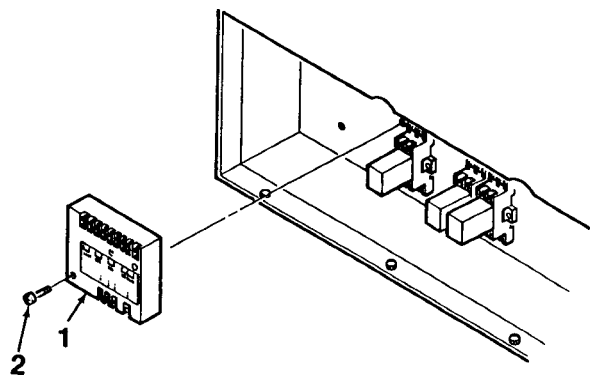

Figure 4-17. Governor Control
2. Tag and disconnect electrical wiring from governor control (1, Figure 4-17).
3. Remove governor control (1) from inside wall of control box by removing screw and captive washer assemblies (2).
1. Mate governor control (1, Figure 4-17) to inside wall of control box. Secure using screws and captive washer assemblies (2).
2. Connect electrical wiring to governor control (1).